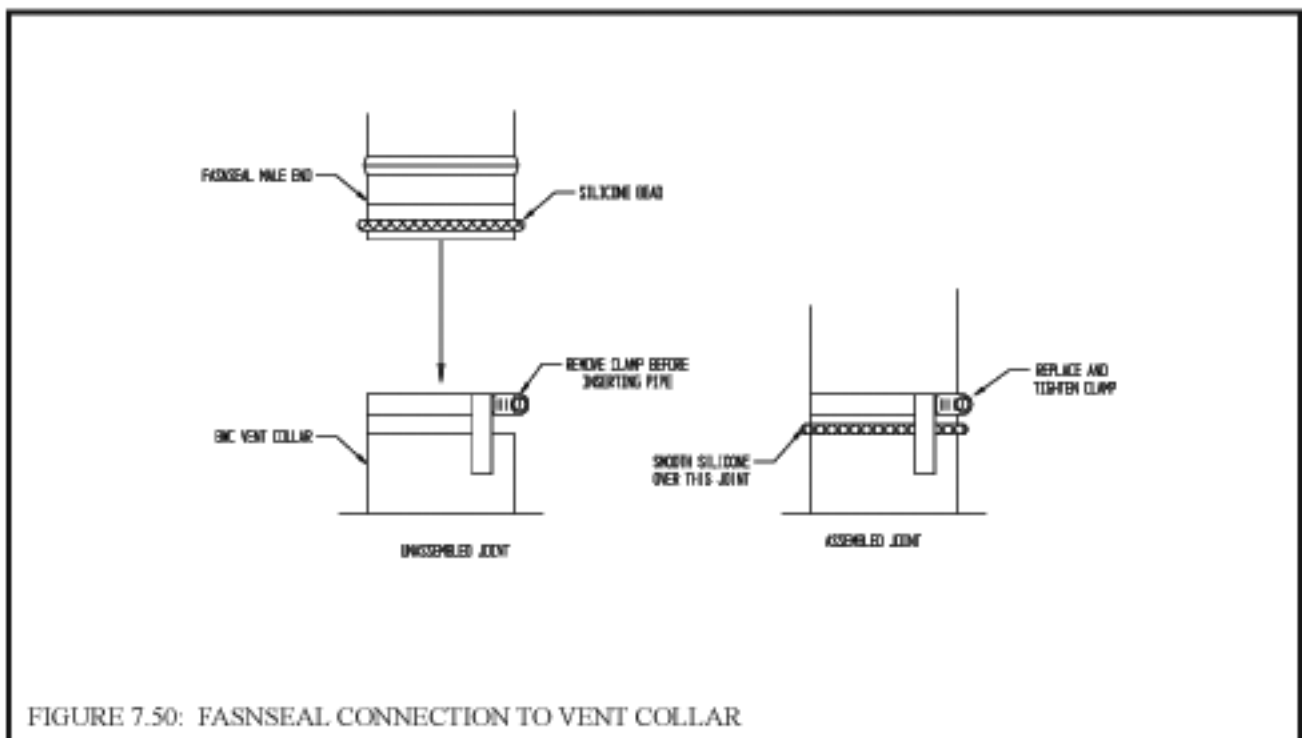

FIGURE 7.50: FASNSEAL CONNECTION TO VENT COLLAR
- b) Remove the hose clamp shipped on the BWC vent collar. Bend the three hose clamp tabs on this collar outward slightly. Clean the exterior of the male end of the first piece of pipe and the inside of the vent collar on the boiler. Remove dirt, grease, and moisture from the surfaces to be sealed. On the male end of the pipe, apply a 1/4" wide bead of high temperature silicone approximately 1/4 inch from the male end of the pipe. Insert the male end of the pipe into the boiler vent collar until it bottoms out. Apply an additional bead of silicone over the outside of the joint and the seams on the vent collar and smooth out (Fig 7.50). Replace and tighten the clamp on the vent collar.